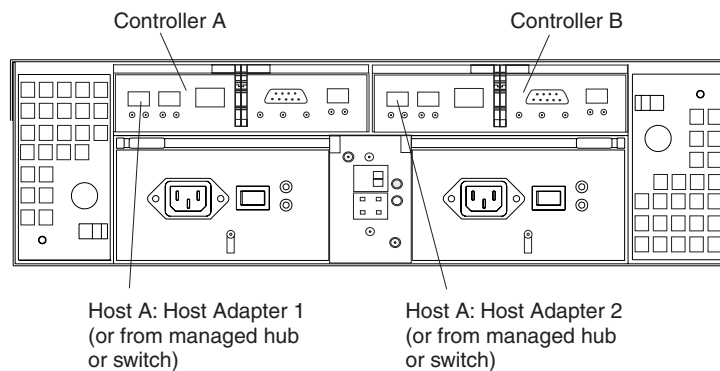

Figure 49. Location of host cables (base storage subsystem)
2. Connect the host-system cables to the RAID controller or to switches. Figure 49 shows the location on the RAID controllers where the host-system cables connect.